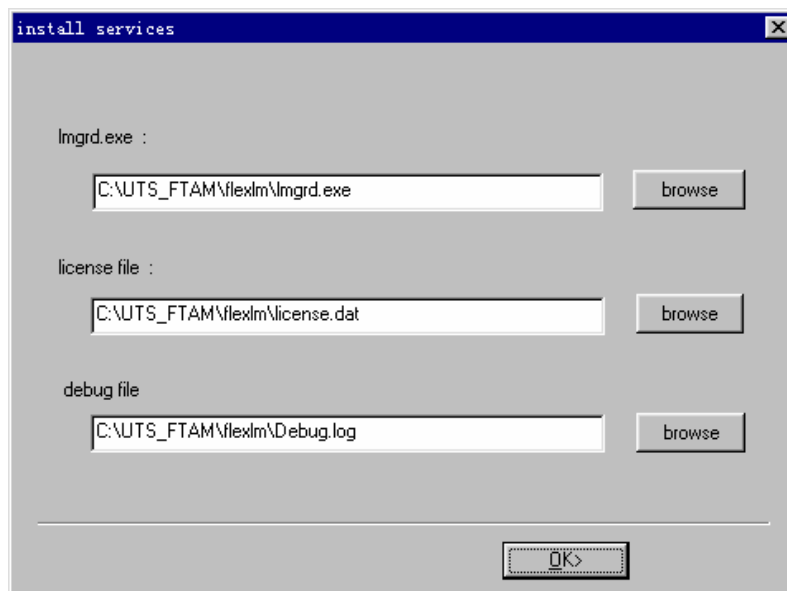

Figure 2-61 Selecting installation path
- 6) After the files are copied, the [install services] dialog box is displayed, as shown in Figure 2-61.